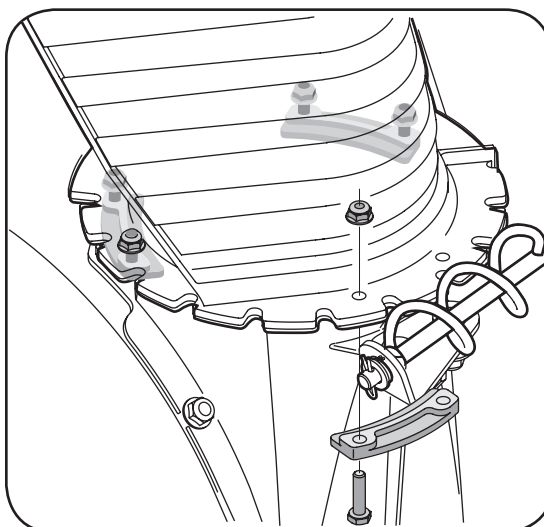

Figure 3-5
6. Secure flange keeper removed earlier with lock nuts and screws. Tighten down nuts securing the other two flange keepers. See Figure 3-5.